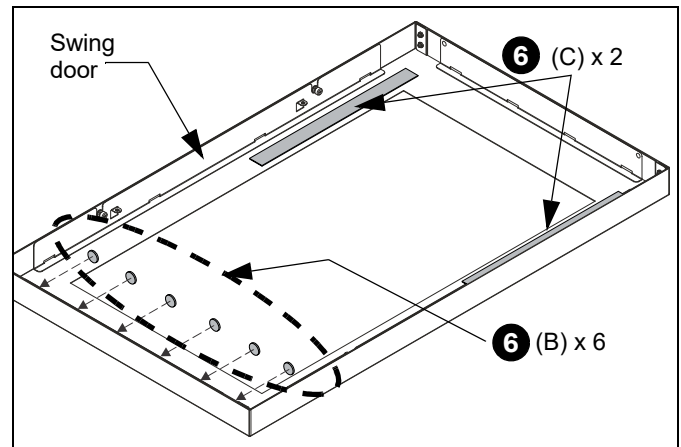

Figure 3
7. Remove one side of the adhesive tape liners and apply the tape pieces along the sides towards the top of the swing door. (See Figure 3)
5. Clean the inside frame of the swing door with an alcohol wipe or something similar where the tape (C) and felt pads (B) will be attached, and let dry. (See Figure 3)
6. Evenly space and apply the six felt pads (B) to the inside swing frame (halfway on the bottom extending halfway up the swing door).